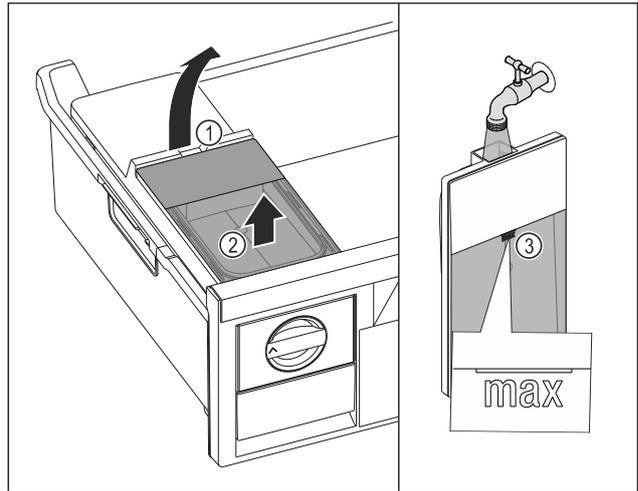

Fig. 103
- ▶ Lift the water tank at the recess Fig. 103 (1).
- ▶ Remove the water tank by lifting it upwards. Fig. 103 (2)
- ▶ Fill the water tank with drinking water up to the mark Fig. 103 (3).